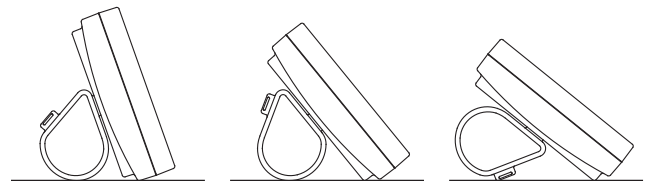

FIG. 38
2. The angle may be adjusted by reorienting the support in the battery cover (See Figure 38).